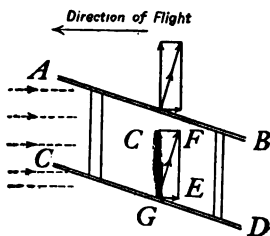

FIG. 64.—Resolution of the forces acting on an aeroplane.
83. The Aeroplane.—The aeroplane consists of one or two frames $ABCD$ (see Fig. 64), over which is stretched cloth or thin sheet metal. It is driven through the air by a propeller turned by a powerful gasoline motor. This